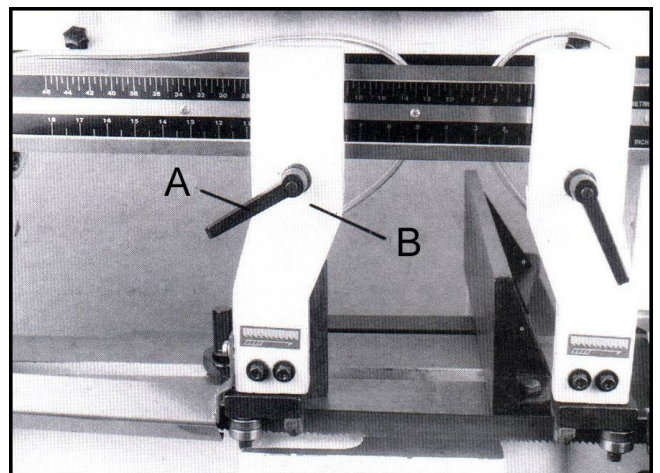

Fig. 7
6. Loosen lock knob (A, Fig.7) and slide left blade guide arm (B, fig.7) to the right as far as possible,